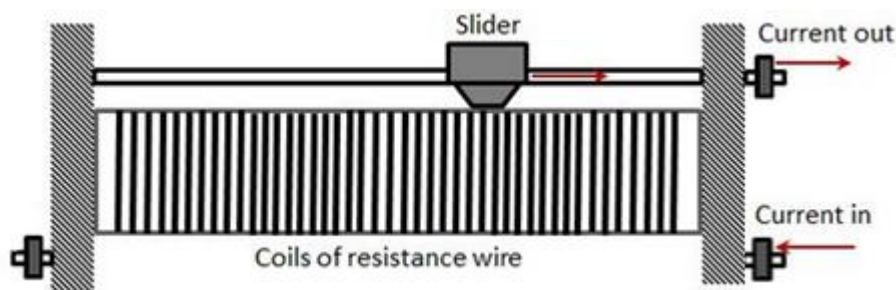

Figure 2. Diagram of the rheostat and its terminals.
4. Connect one wire of the Multimeter to your fixed terminal of the rheostat ("Current in") and the other wire to the terminal on the slider ("Current out"). Use alligator clips if necessary. See Figure 2.